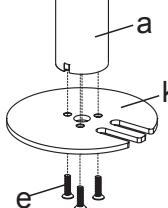

Figure 6
2. Install the Grommet Base Plate(k) to the Pole(a) using 3pcs M5x14 Bolts(e), and tighten using the Allen Key(m), see Figure 6.